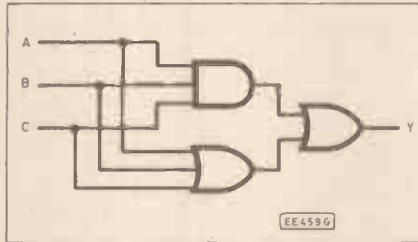

Fig. 9.22. Logic arrangement for Problem 9.1.
9.1 What single logic gate could be used to replace those shown in Fig. 9.22? (e)